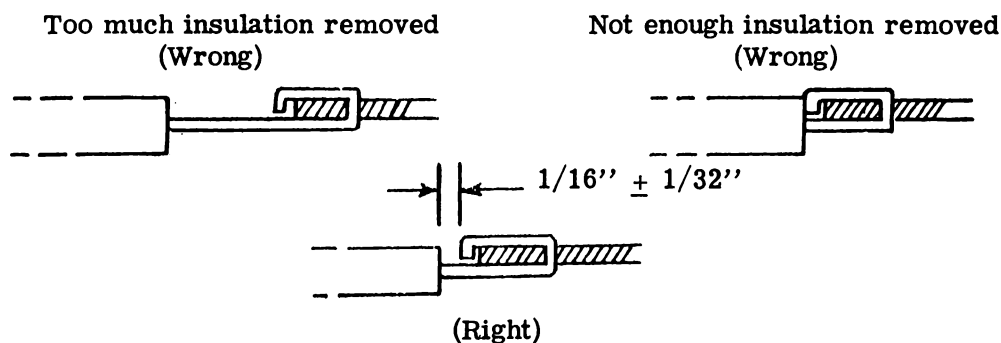

Figure 3-22
- (3) Feathering at the edge of each joint.
- (4) Sufficient contour of the wire shall be visible to assure that the solder bond is adequate.
- (5) Wire insulation shall be kept within $1/16'' \pm 1/32''$ of the solder joint. In no case shall the insulation be in the solder. (See Figure 3-22.)